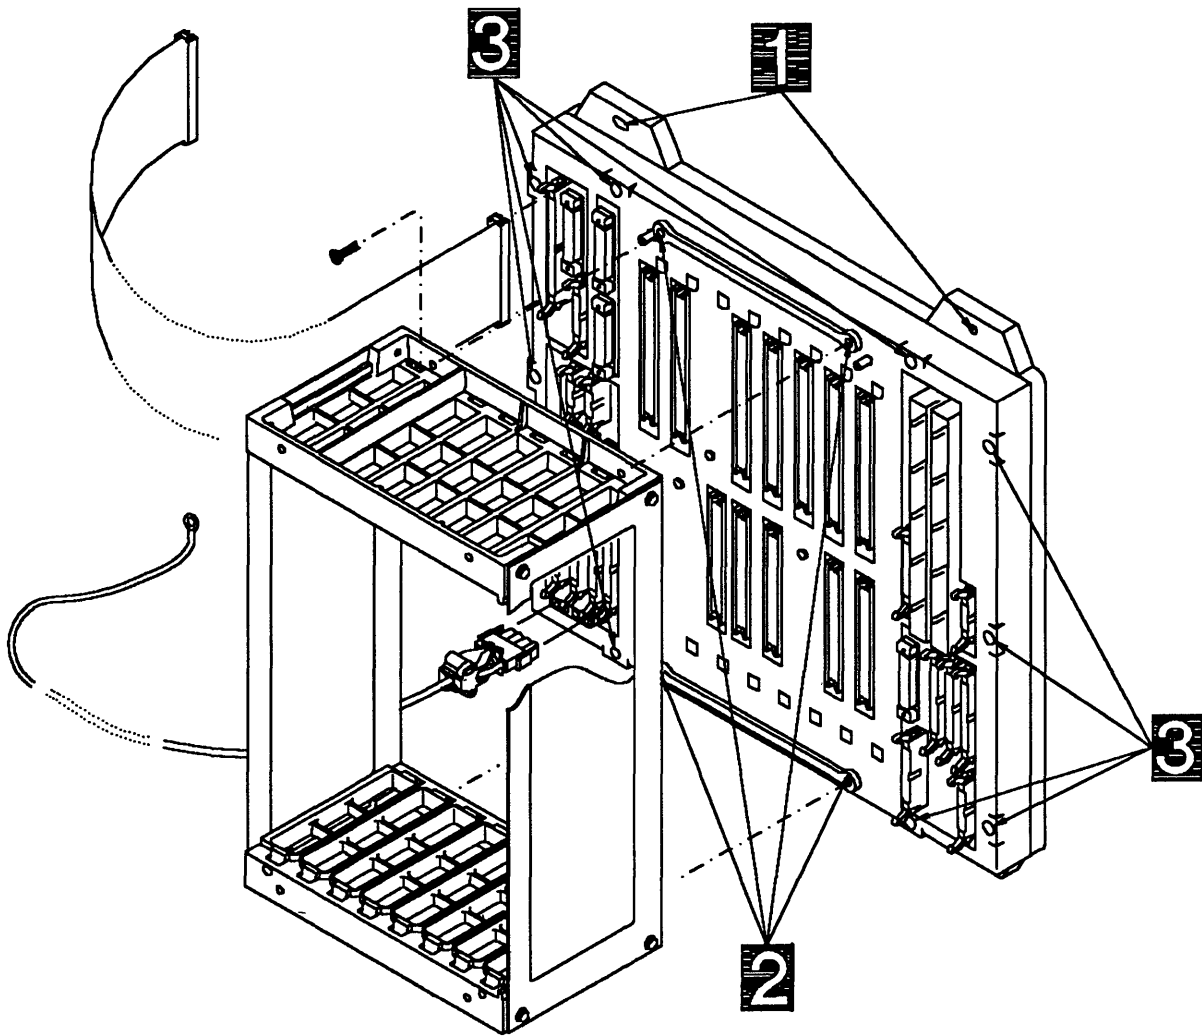

Figure 5-151. MOSS Board and Card Rail Assemblies
8. Refer to Figure 5-151.
2. Refer to Figure 5-151 on page 5-150.